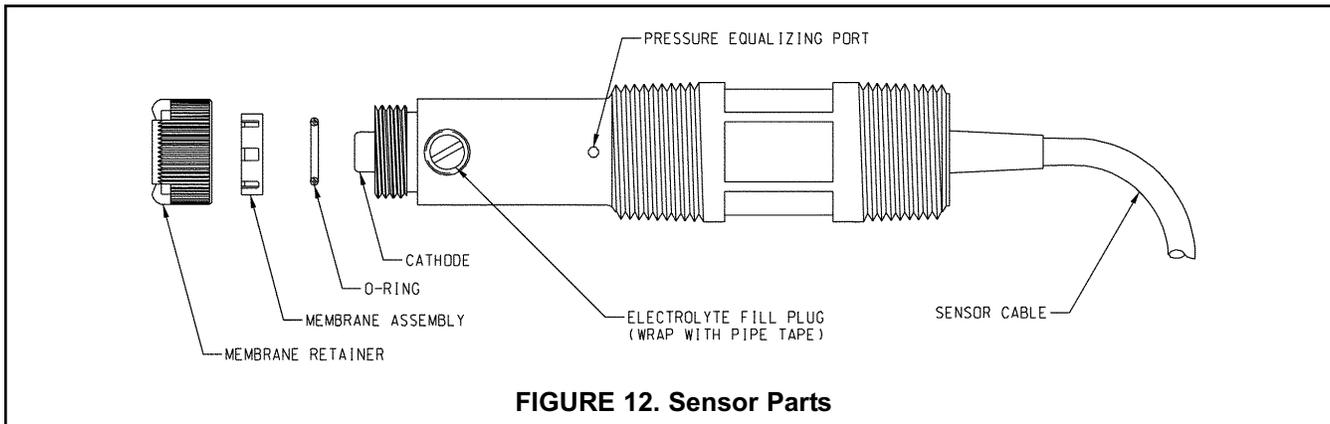

FIGURE 12. Sensor Parts
1. Unscrew the membrane retainer and remove the membrane assembly and O-ring. See Figure 12.
6. Prepare a new membrane. Hold the membrane assembly with the cup formed by the membrane and membrane holder pointing up. Place a drop of isopropyl alcohol in the cup. Slowly add about twenty (20) drops of electrolyte solution to the cup. This step is important because the alcohol wets the inside surface of the membrane and ensures that no air bubbles will be trapped when the membrane assembly is placed over the cathode. Leave the membrane assembly filled with electrolyte solution and set it aside.
10. Insert a small **blunt** probe, like a toothpick with the end cut off, through the pressure equalizing port. See Figure 12.